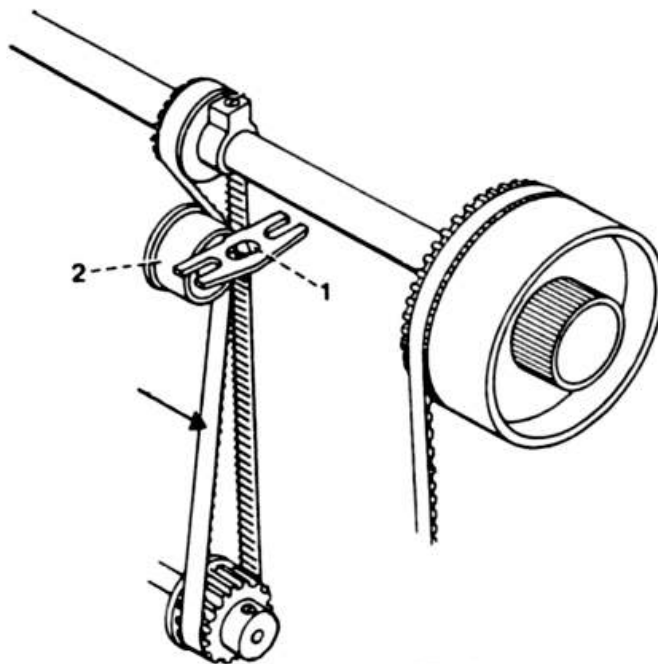

Fig. 1
- Loosen screw 1 (fig. 1).
The belt must move 1 to 3 mm inwards (fig. 1).